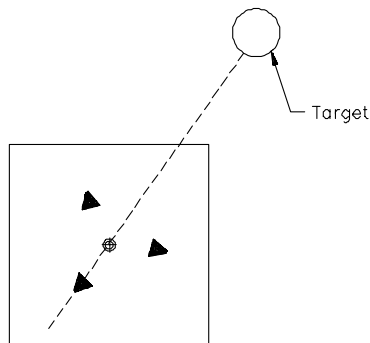

Figure 3.6
2. **Do not** align the ceilometer from the leg through the center line as shown in figure 3.6.